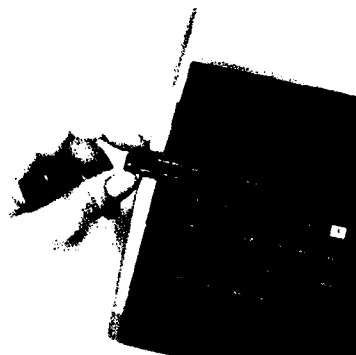

Figure 23. Inserting Program Card Into Window Slot
h. After the card appears at the back, slide it carefully into the window slot (figure 21) as shown in figure 23.